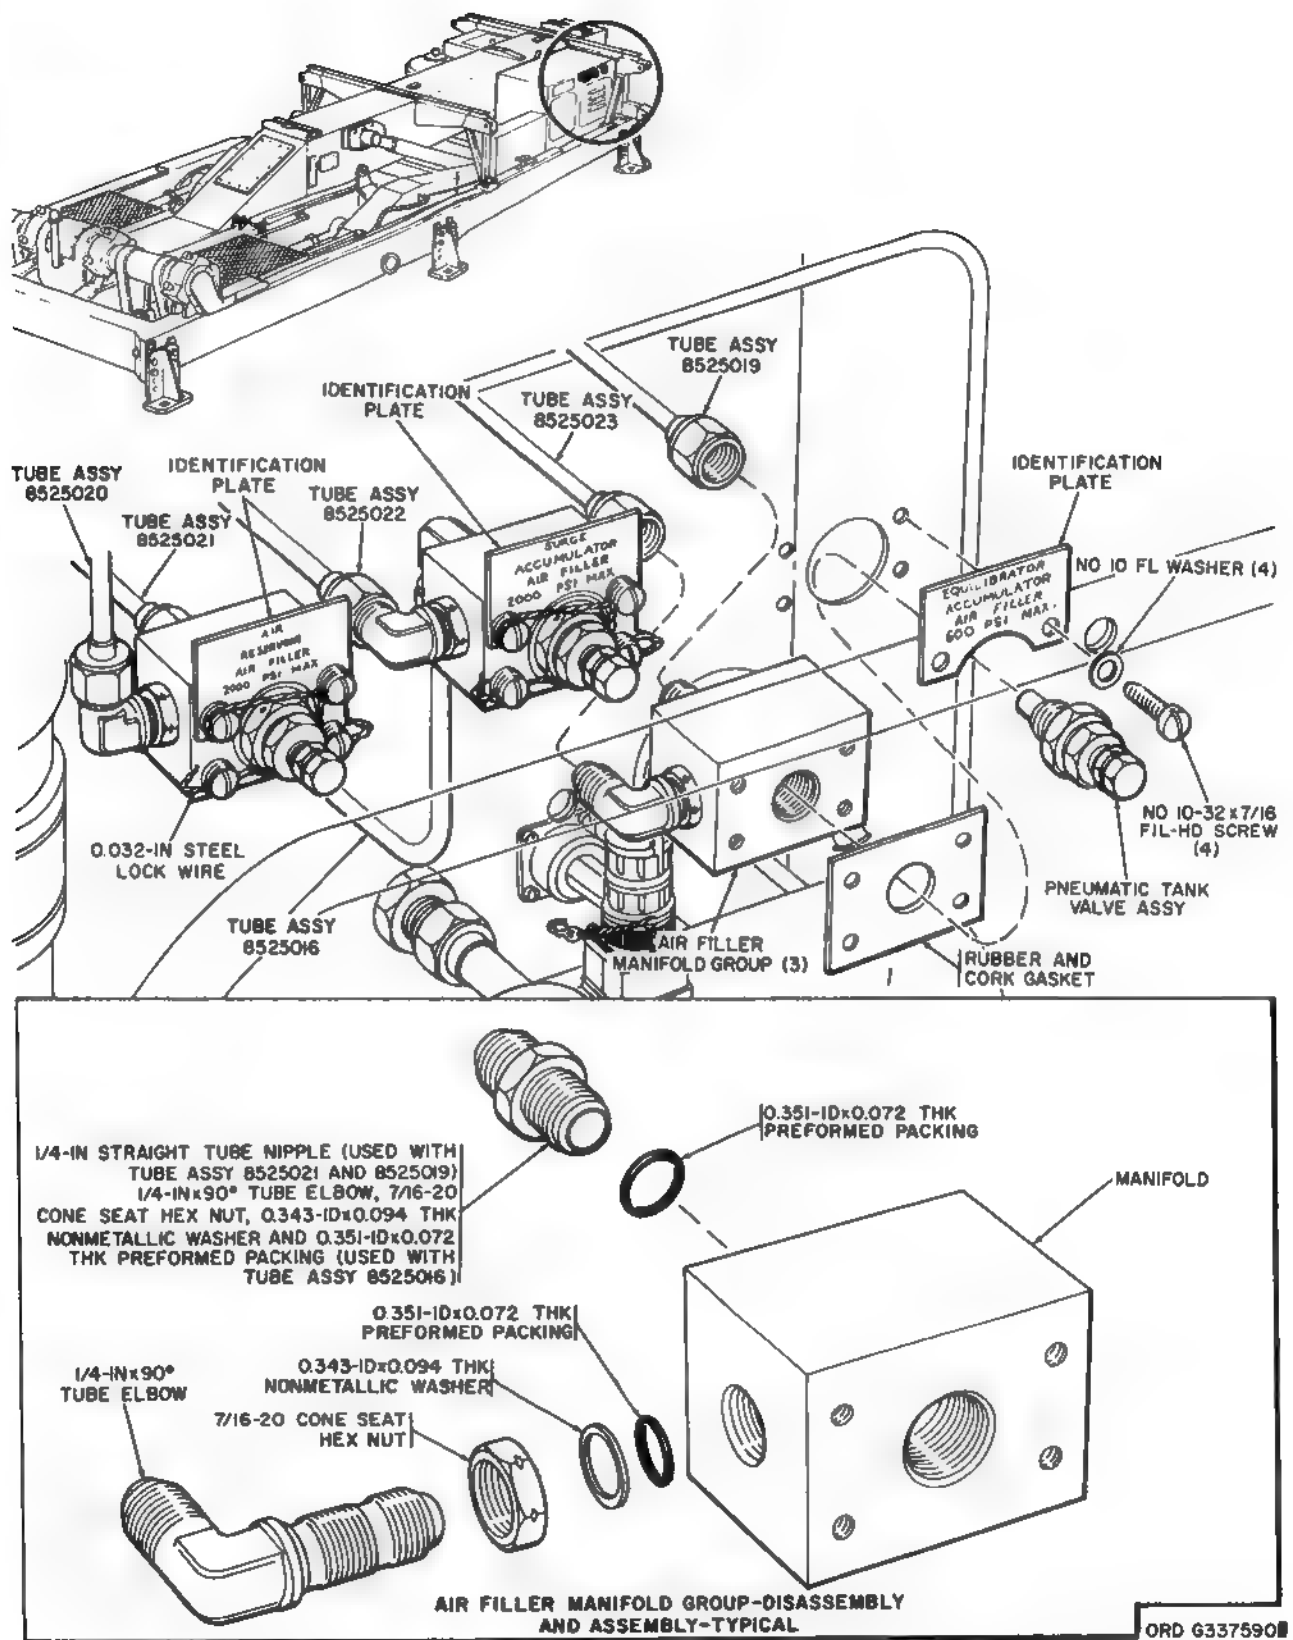

Figure 149. Pneumatic tank valve assembly and air filler manifold group – removal and installation – typical.
- (c) Disconnect two tube assemblies (fig. 149).
**(2) Disassembly.** Disassemble air filler manifold group.**(3) Assembly.** Assemble air filler manifold group.**(4) Installation.**
**(5) Inspection and test.**
- (c) Disconnect the two tube assemblies (fig. 149).
- (2) *Disassembly.* Disassemble the air filler manifold group.
- (3) *Assembly.* Assemble the air filler manifold group.
- (4) *Installation.*